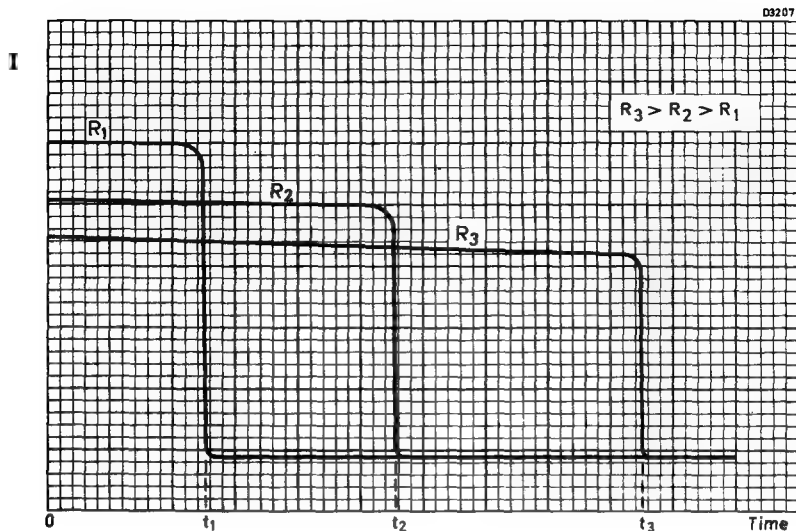

Fig. 9
- (1) the value of the resistor; the greater the value the longer the time taken (fig. 9)